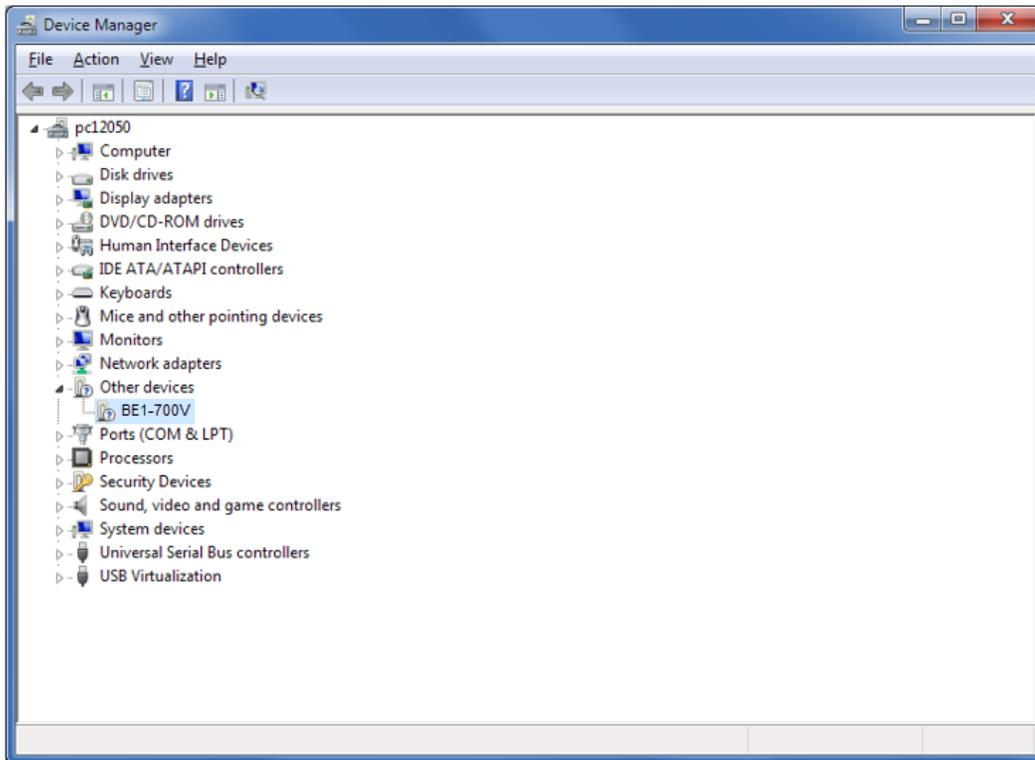

Figure 52-2. Device Manager
- Step 2. Open the Windows® Device Manager as shown in Figure 52-2. Right-click on BE1-700 (or Unknown Device) under Other Devices and select Properties.